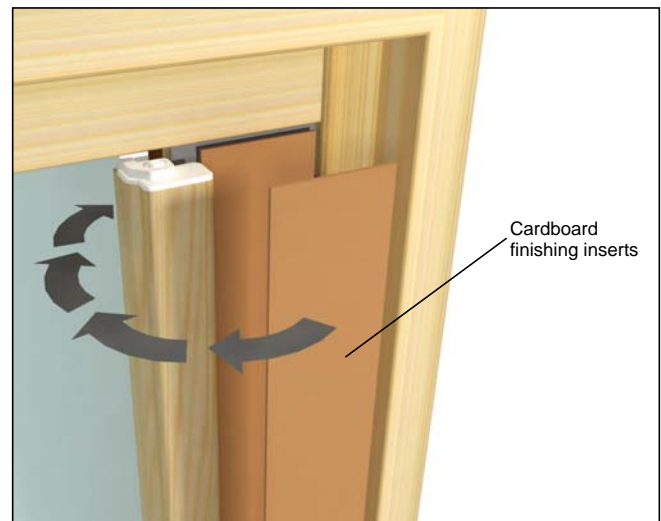

Figure 10
9. **Finishing the Retractable Screen.** Prior to finishing, install the cardboard finishing inserts on both sides of the pull bar as shown in figure 10.